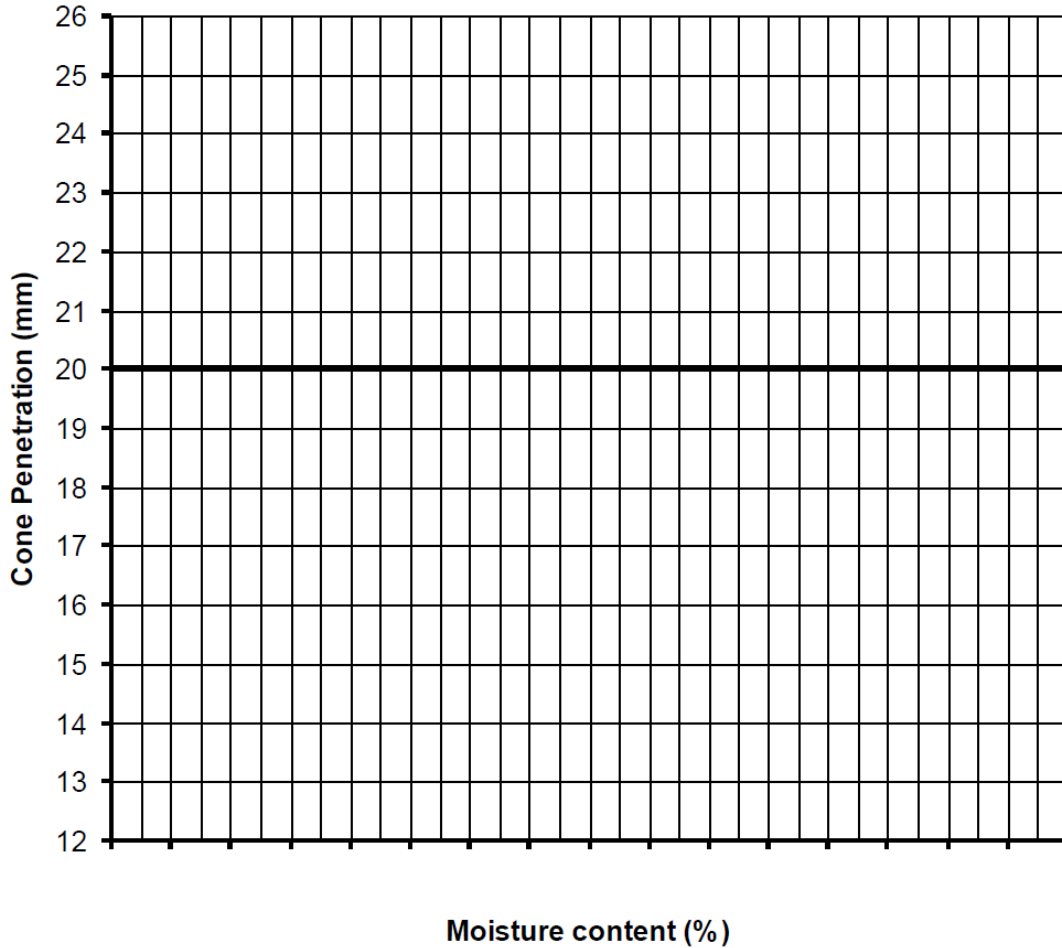

FIGURE Q4a.
- (i) Using the data above and **Figure Q4a**, as appropriate, determine the 'Index Properties' for this soil. (8 marks)